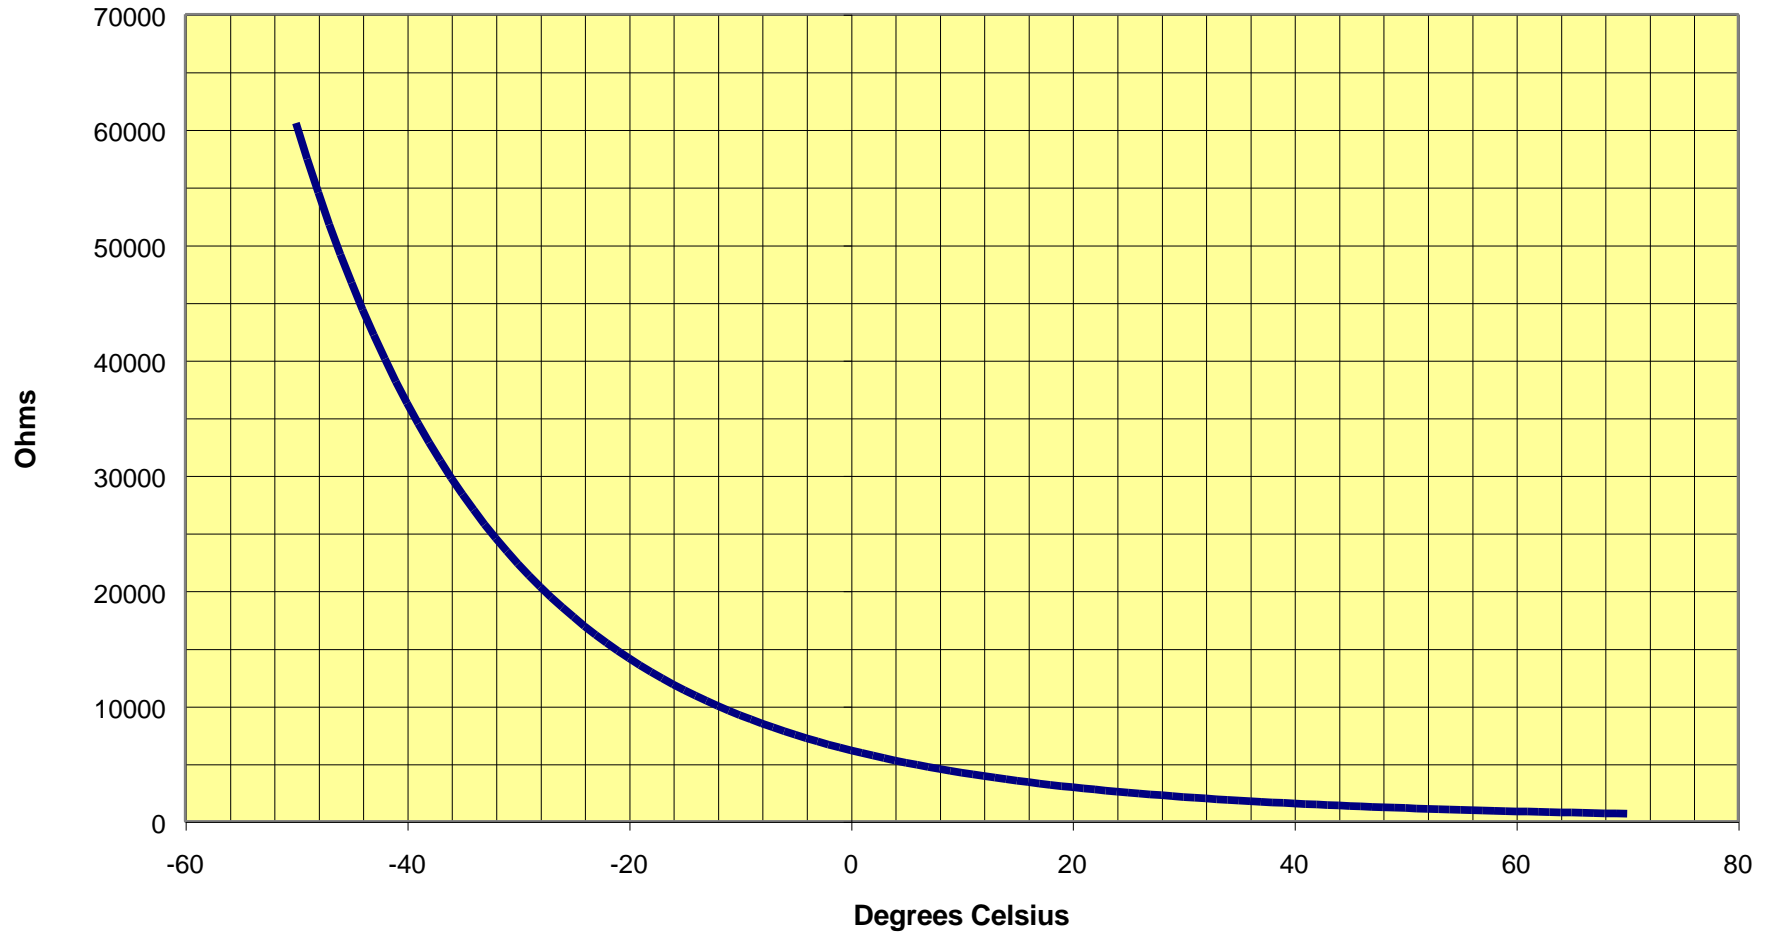
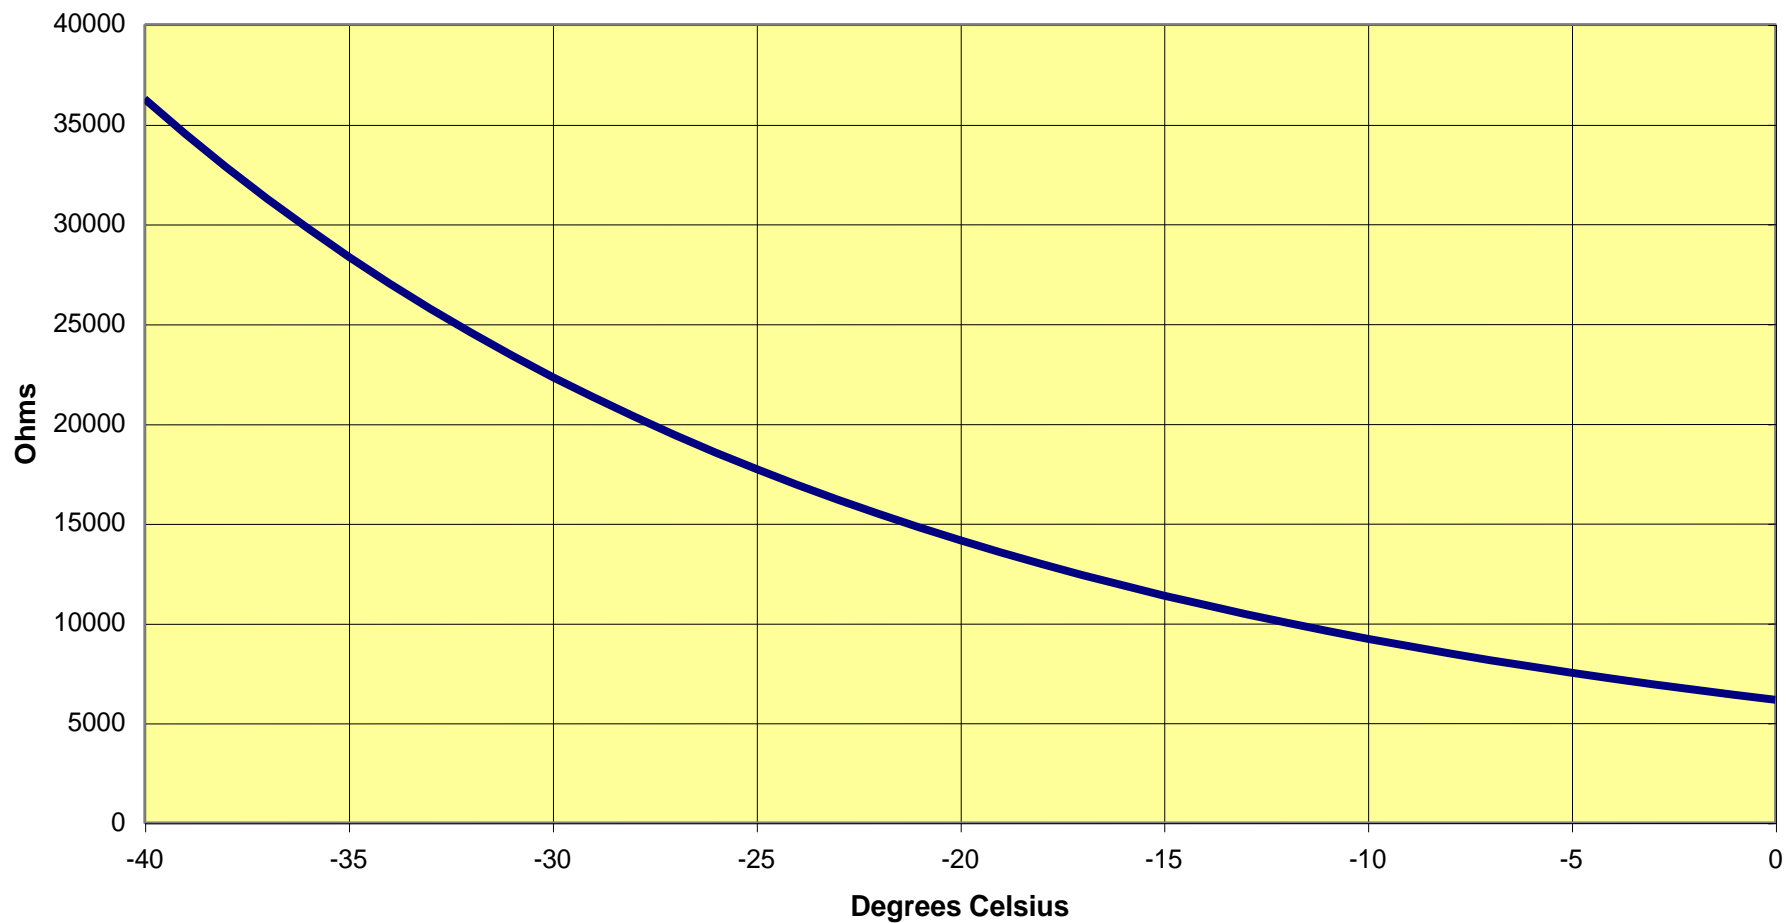

Figure 9. Thermistor resistance vs. temperature, -50° to +70°C
Figure 10. Thermistor resistance vs. temperature, -40° to 0°C
- 1) Measure the thermistor resistance directly using an ohmmeter connected to the “Temperature Excitation” and “Temperature Out” wires, and then convert this resistance to temperature. This conversion may be done with the help of Figures 9, 10 and 11. Figure 9 graphs thermistor resistance vs. the full temperature range of -50° to $+70^{\circ}\text{C}$. Figures 10 and 11 are enlargements of the regions below and above 0°C .
Note that the value of R25 is 2000 Ohms. As shown by equation 3, the input voltage can vary during your measurements. What is important, however, is that the ratio of the input voltage to the output voltage, V_{in}/V_{out} , be accurately known. Once you have obtained the value of RT3 from equation 3, use Figures 9, 10 and 11 or equation 1 to obtain the internal tiltmeter temperature.